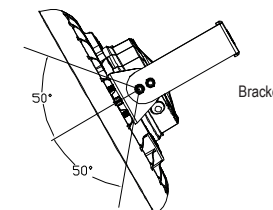

Figure 7
4. After installation, connect the fixture's wires to the mains according to local wiring regulations. Ensure a secure and well-protected connection. By adjusting the bracket screws, the fixture can be tilted vertically up to 50° to the left or right (see Figure 7)